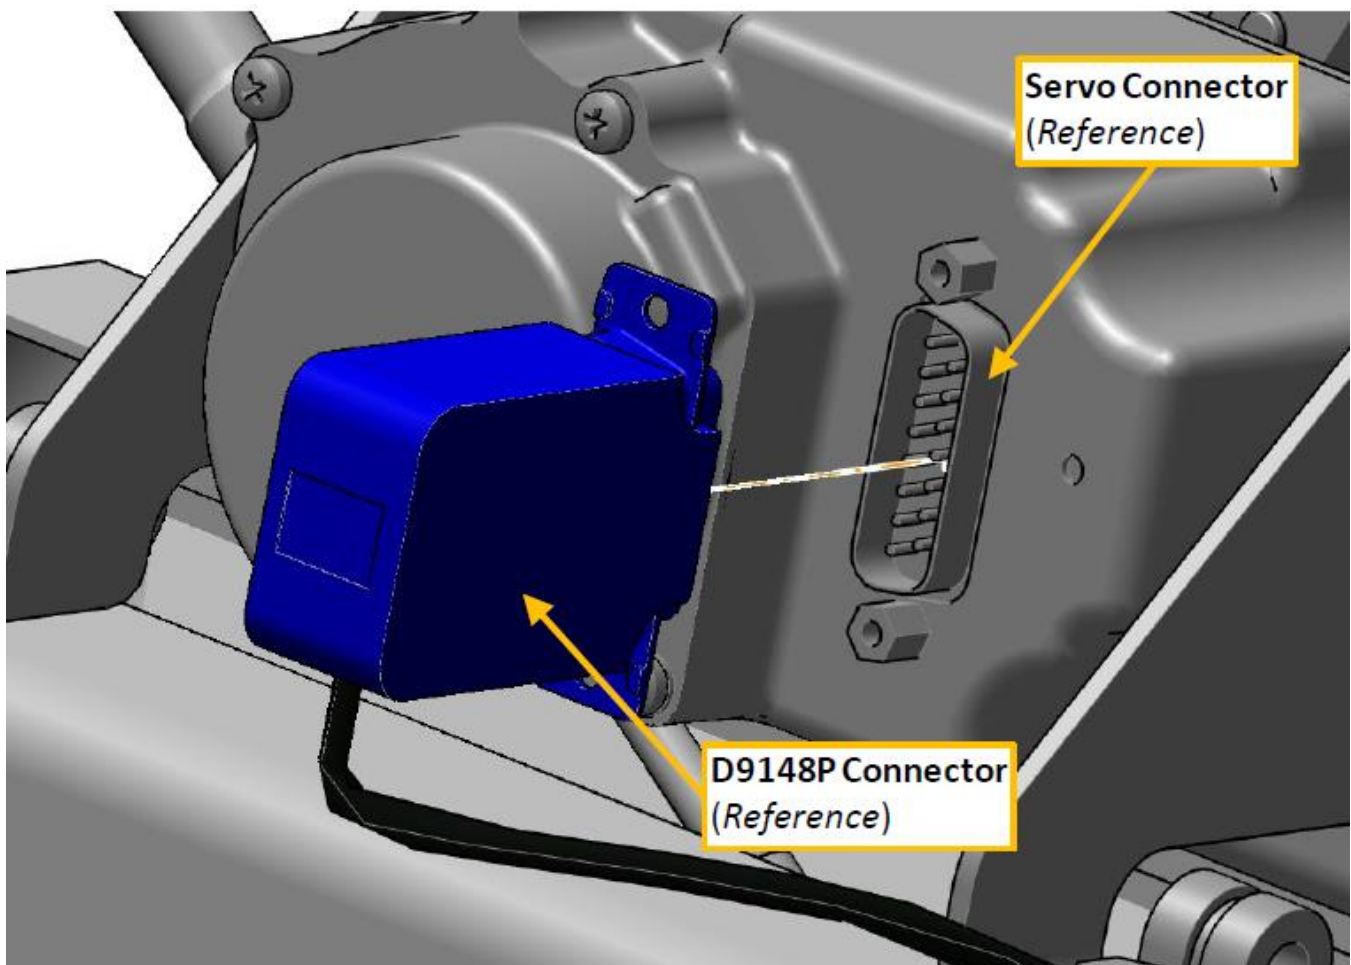

Figure 18 Pitch Servo Connector RH Side
20. Connect D9148P pitch servo connector to pitch servo (see Figure 18).